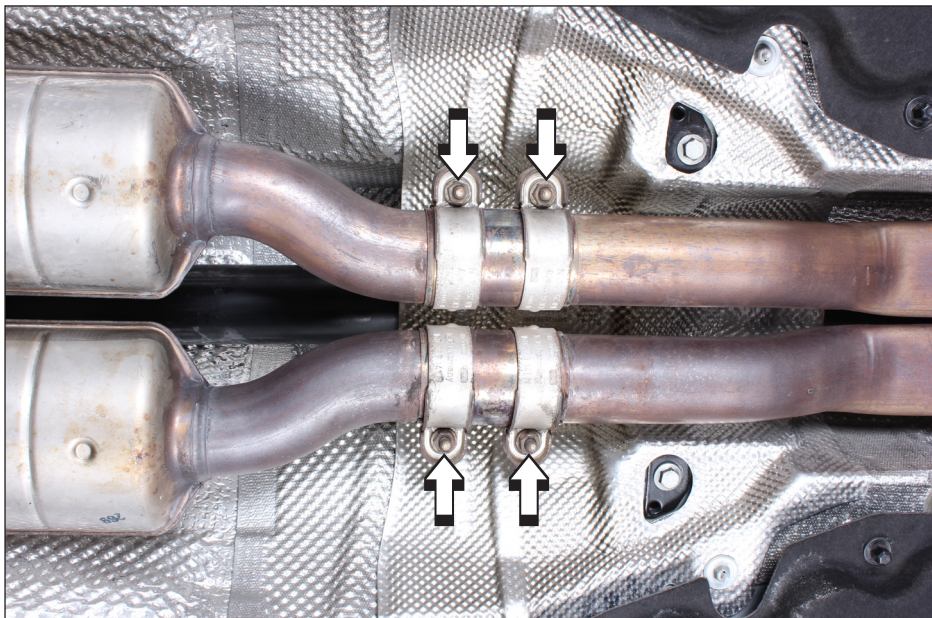

Figure 8
5. Loosen the marked double clamp (Figure 8).